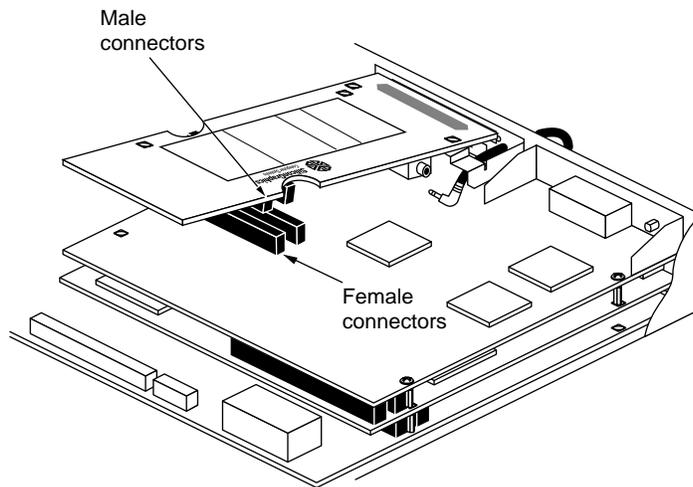

Figure 3-13 Positioning the Presenter 1280 XZ Board
- Grasp the Presenter 1280 board by the sides, with the two male connectors on the underside, as shown in Figure 3-13.
- Loosely place the board on top of the graphics board so that the two male connectors on the underside align with the two female connectors on the graphics board, as shown in Figure 3-13.